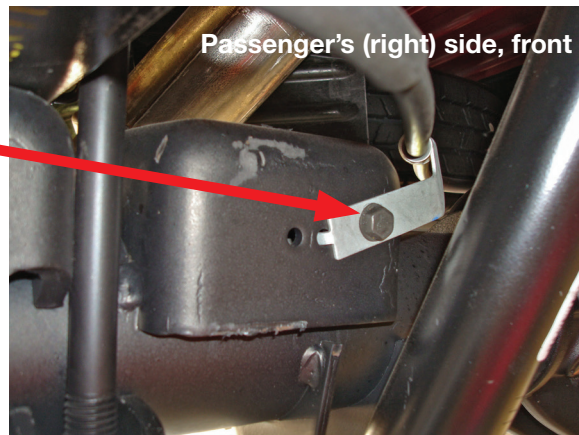

fig. 7
5. Pull the lines clear of the jounce bumper strike plate on the axle to make room for the lower bracket (Fig. 7).